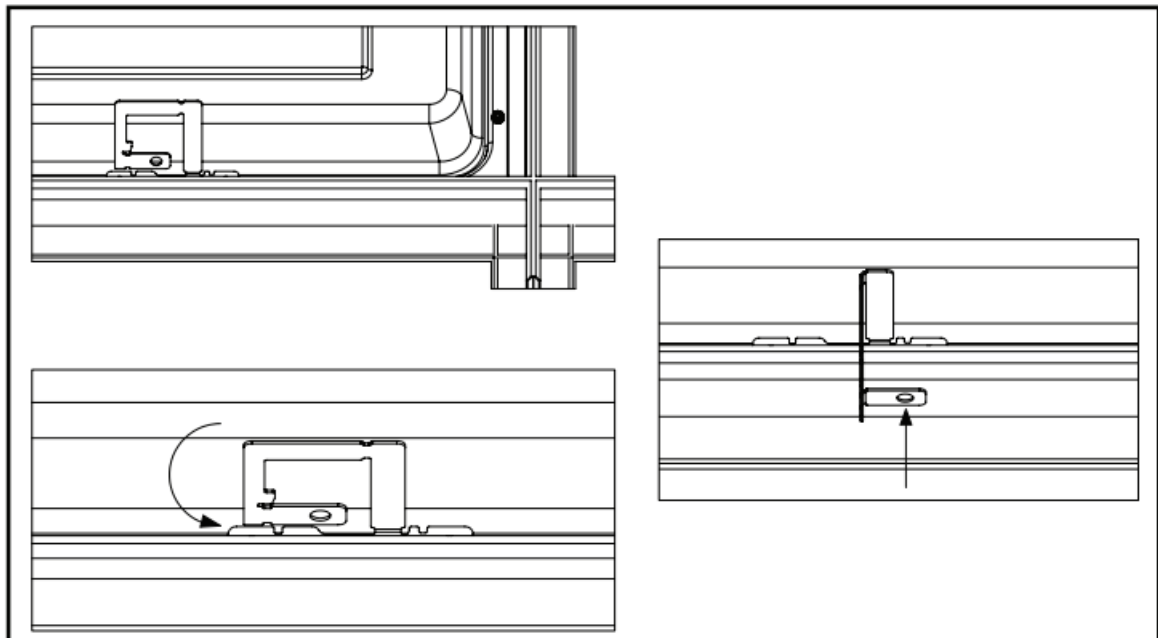

Figure 3.
6. Alignment clips are provided for additional retention to the ceiling system. Orient 4 tabs on the back of the fixture over T-GRID by bending the tabs up 90 degrees perpendicular to back of the fixture. Next bend tabs 90 degrees towards the T-GRID frame (Fig. 3)